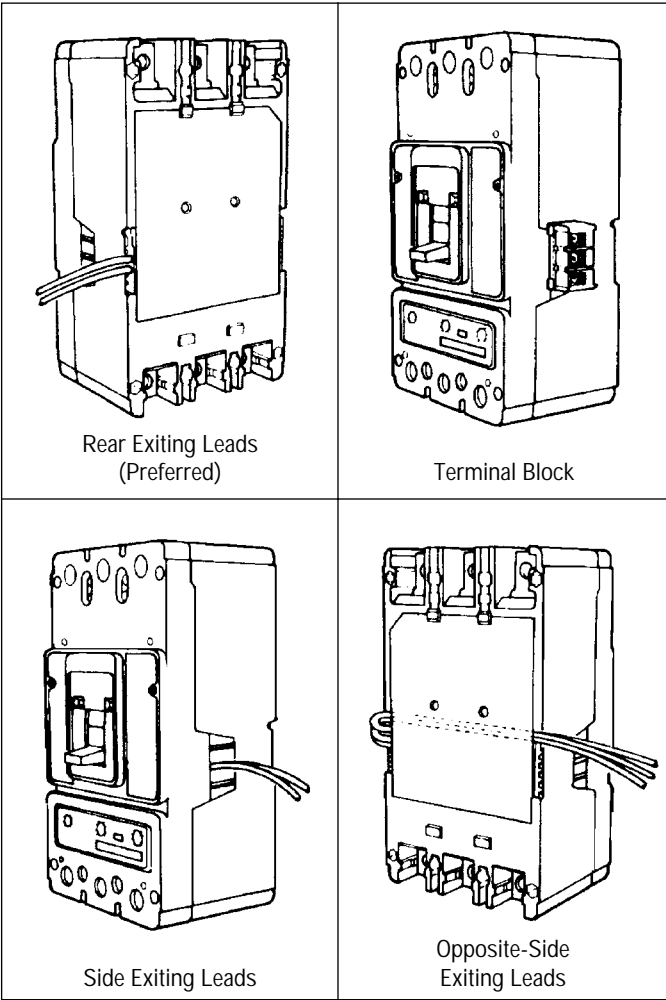

Figure 2-3 Accessory Wiring Options
- 2-8. Route wiring to meet installation requirements (see Figure 2-3).